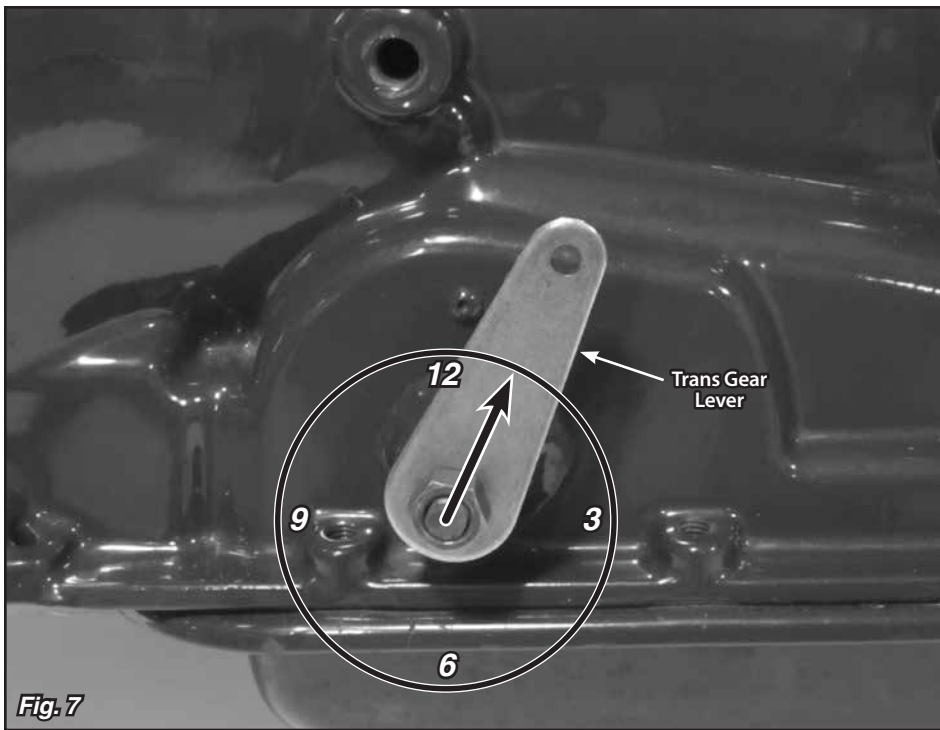

Fig. 7
- Step 12:** Remove the rod end from the new trans gear lever. Install the trans gear lever onto the transmission and secure with your original nut. Place the trans gear lever in the Park position with the top of the lever pointing up and slightly towards the rear of the transmission, at about the 1:00 position. **Fig. 7**